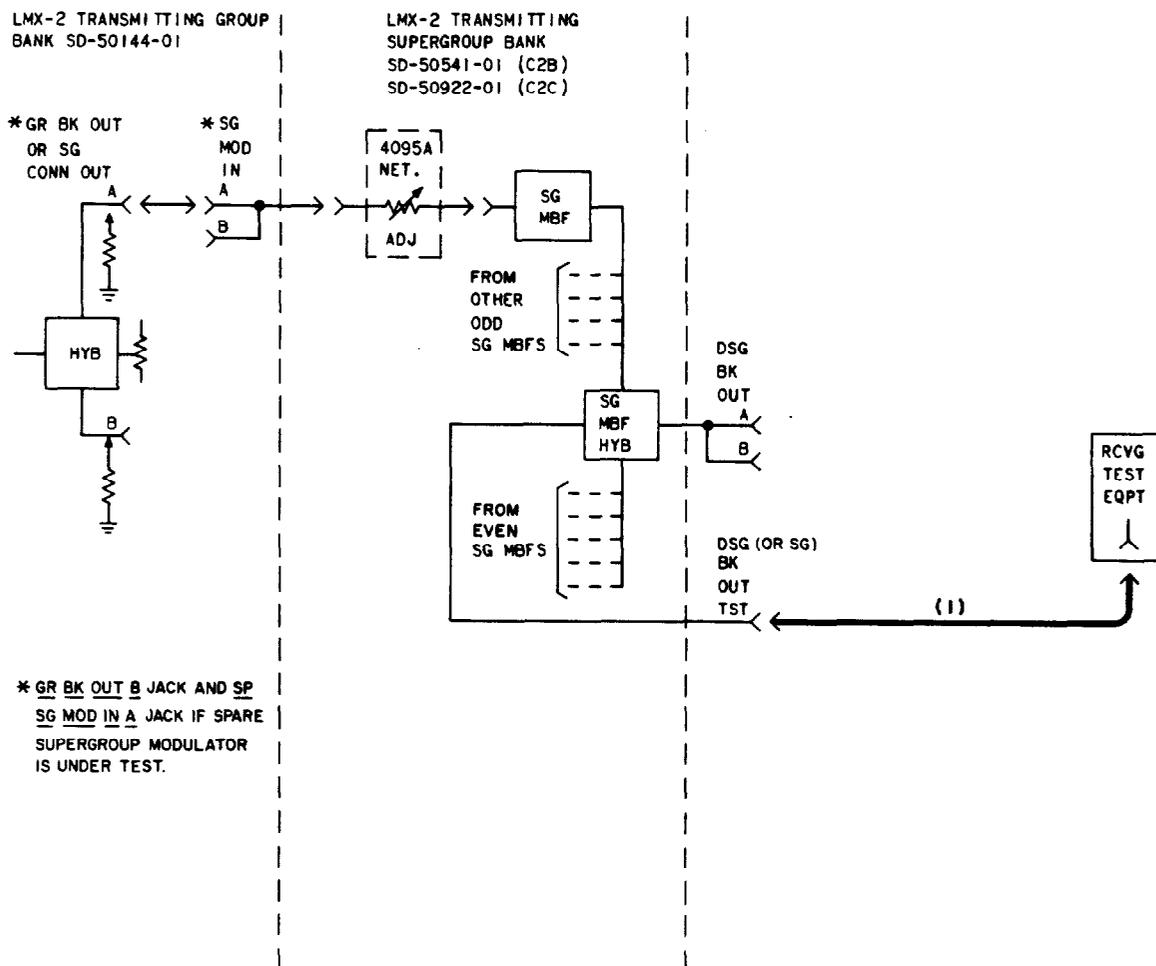

Fig. 7—Supergroup Modulator In-Service Loss Test
| 2 | Connect the RTE to the DSG BK OUT TST (or SG BK OUT TST) jack of the regular or spare supergroup bank being tested [patch (1), Fig. 7]. |